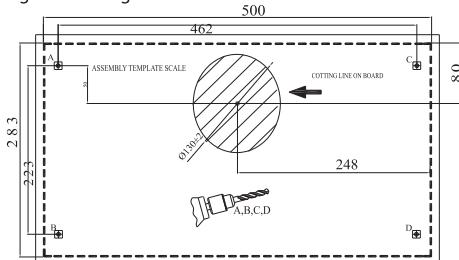

Figure 3 – Drawing of installation holes
The SL-series range hoods are designed for hidden installation in a kitchen cabinet. Figure 3 below shows the distances between the installation openings for installation in a kitchen cabinet.
- Mark on the bottom of the cabinet and drill four holes with diameter ø 2 mm , taking into account the distances between the installation holes specified in Figure 3.